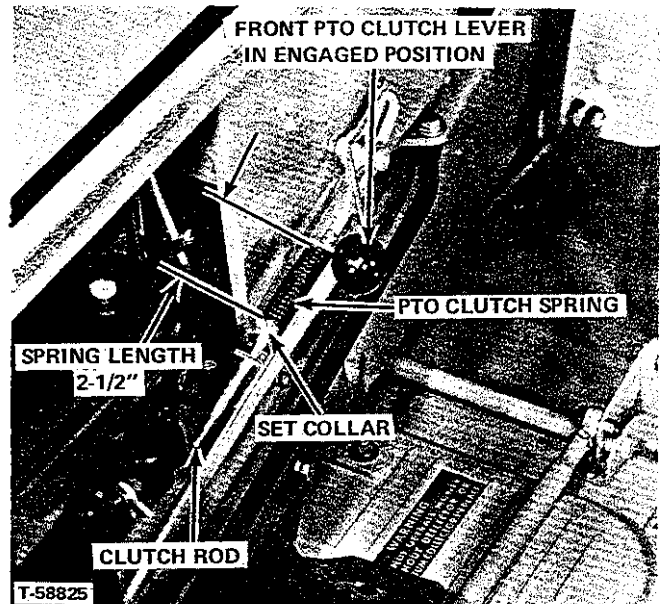

FIGURE 5
11. Engage tractor PTO clutch and check belt tension. When fully engaged the PTO clutch spring should be 2-1/2 inches long as shown in Figure 5. Readjust set collar on clutch rod to obtain this dimension.